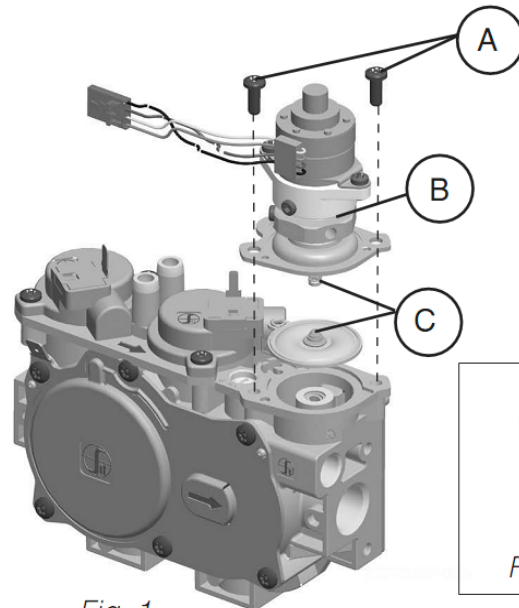

Fig. 1
- Pressure regulator assembly (E)
- Two (2) screws (F)
- Identification label (G)
- 2** See Fig. 1. Using a Torx T20, or slotted screwdriver, remove and discard the two (2) pressure regulator mounting screws (A), pressure regulator tower (B), and the spring and diaphragm assembly (C), (If applicable).